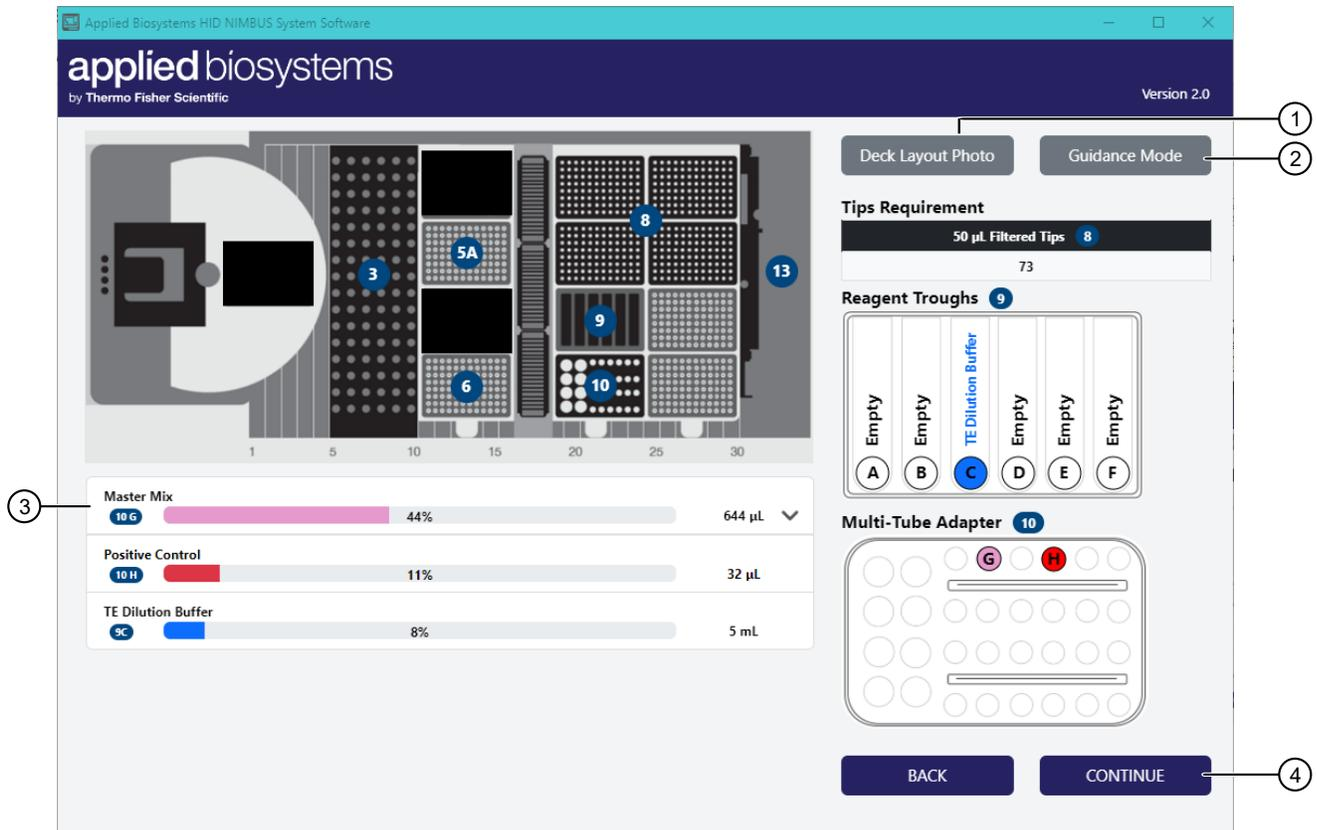
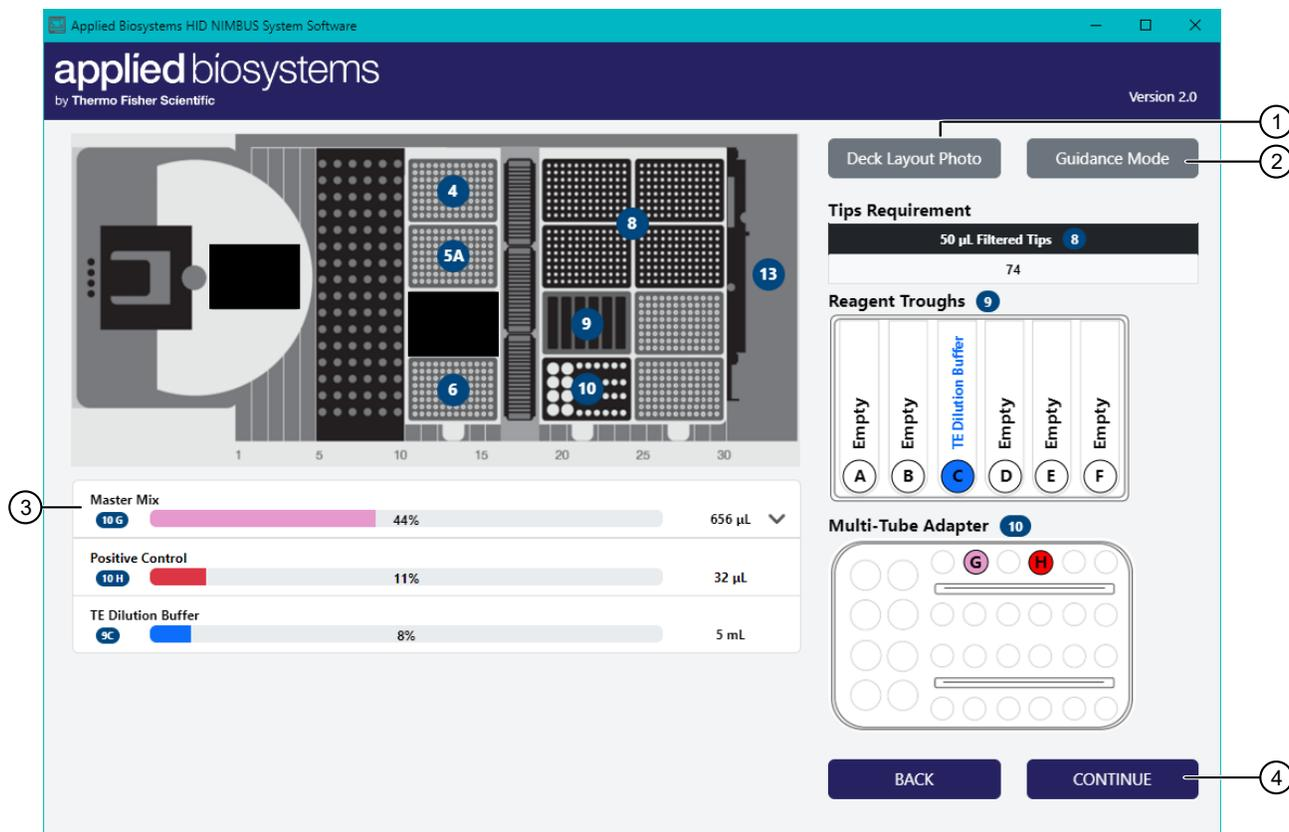

Figure 12 Example amplification deck layout with tubes as the input labware
Figure 13 Example amplification deck layout with a plate as the input labware
1. Place all the reagents on the deck according to the diagram in the **Deck Summary** screen (see Figure 12 and Figure 13).
IMPORTANT! The total number of 50 µL tips is 384. The top left rack contains tips 1–96, the bottom left rack contains tips 97–192, the top right rack contains tips 193–288, and the bottom right rack contains tips 289–384. See Figure 12 and Figure 13.